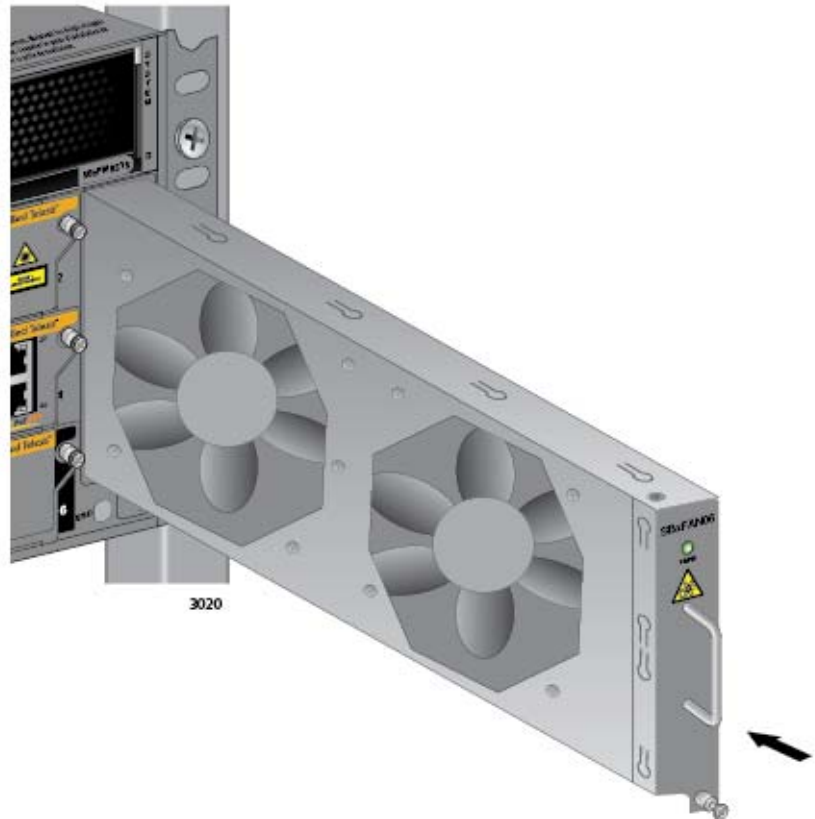

Figure 151. Installing a New AT-SBxFAN06 Fan Module
1. Orient the new module with the LED and module name on top and carefully slide the module into the slot in the chassis. Refer to Figure 151 on page 239.